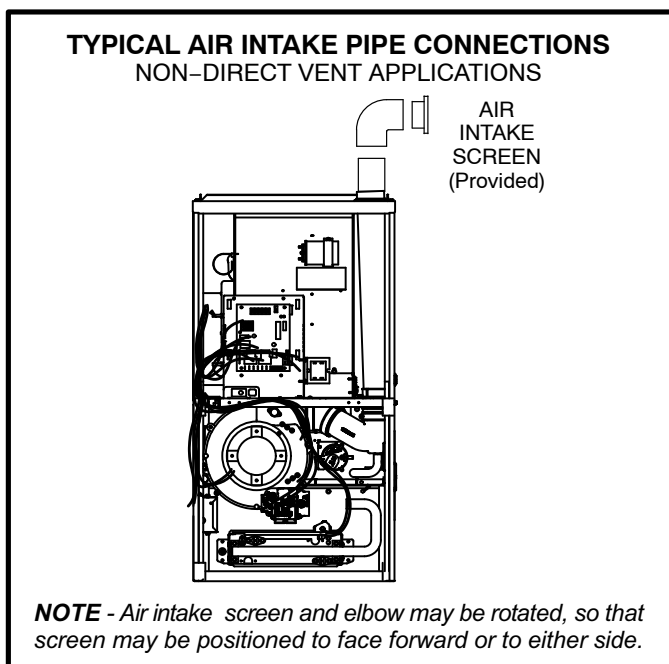

FIGURE 21
- 1 - Use field-provided materials and the factory-provided air intake screen to route the intake piping as shown in figure 21. Maintain a minimum clearance of 3" (76mm) around the air intake opening. The air intake opening (with the protective screen) should always be directed forward, or sideways.